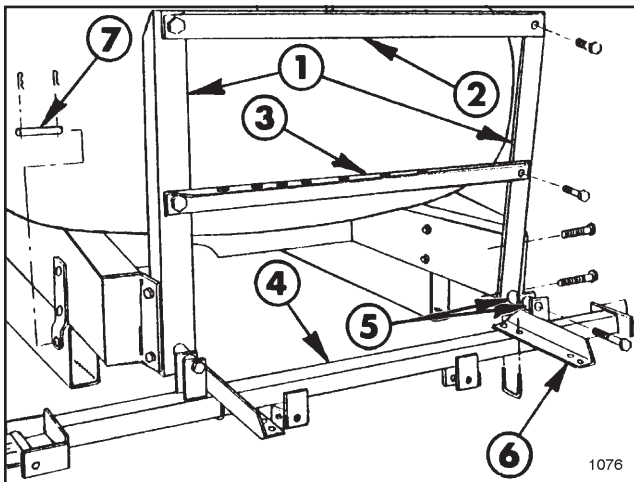
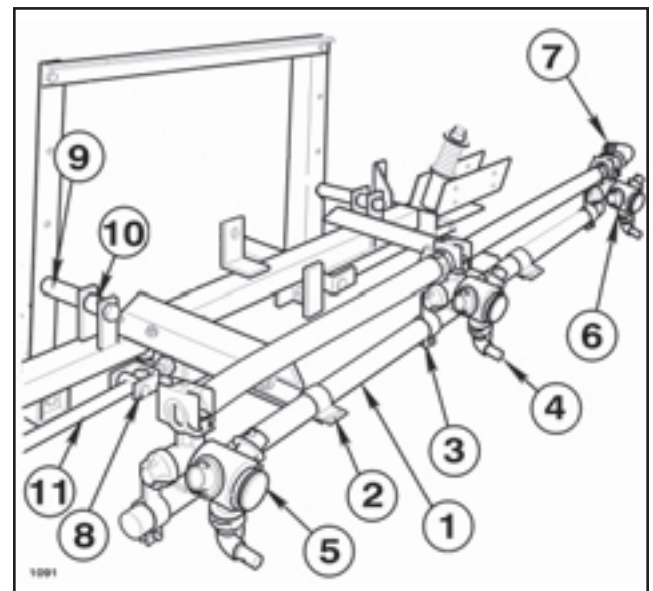

FIG. 12
FIG. 13
4. Place the Tank Saddle assembly onto the vehicle frame. Secure it to the vehicle frame by sliding the (2) 3/4" dia. clevis pins through the rear mounting lugs and the vehicle frame. Install (4) lynch pins into the clevis pins. See FIG. 12.
1. Attach the two Boom Mount Upright angles onto the rear of the Tank Saddle extensions using (4) 1/2" x 1-1/4" hex hd. cap screws and locknuts (FIG. 12).
2. Position the Lower Cross Support angle and attach it to the Boom Mount Upright angles with (2) 1/2" x 1-1/4" hex hd. cap screws and locknuts See FIG. 12.
3. Position the Upper Cross Support angle and attach it to the Boom Mount Upright angles with (2) 1/2" x 1-1/4" hex hd. cap screws and locknuts.
4. Position the Spacer Tubes between the Boom Mount Upright angles and the lugs on the Boom Main Frame tube. Secure Boom Main Frame tube to the Boom Mount Uprights with (2) 1/2" x 4" hex hd. cap screws and locknuts (FIG. 13).
5. Position the two Center Boom Angles on the Main Frame Tube and secure them to the Main Frame Tube with (2) square U-bolts, (4) flat washers, and (4) hex nuts (FIG. 12).
6. Center and attach the Center Boom Pipe to the Center Boom Angles with two clamps, 3/8" x 1" hex hd. cap screw, flat washers and lock nuts. See FIG. 13.
1. Loosely attach the Double Barb Turret assembly in the approximate center of the Center Boom Pipe. For most uniform spray coverage, position all turret assemblies as shown in FIG. 13.
2. Loosely attach a Single Barb Turret assembly to LH end of the Center Boom Pipe. Loosely attach Threaded Barb Turret assembly to RH end of the Center Boom Pipe. Place a hose clamp onto each end of two 3/4" x 19" jumper hoses and connect the two "end" turret assemblies to the Double Barb Turret assembly. Level space Nozzles 20" apart and tighten all fasteners securely. Apply thread sealer and install the 3/4" 90° Hose Barb on Threaded Barb Turret assembly. See FIG. 13.
3. Attach the Strut Assemblies to the Adjustable Clevis Assemblies found on each side of the Boom Main Frame tube with (2) 1/2" x 2" clevis pins and (2) 1/8" x 1" cotter pins (FIG. 13).
8. At the Adjustable Clevis Assemblies (See FIG. 13), adjust the booms to the level position by adjusting the jam nuts to the desired position, then tighten the end nuts against the Boom Main Frame support member.